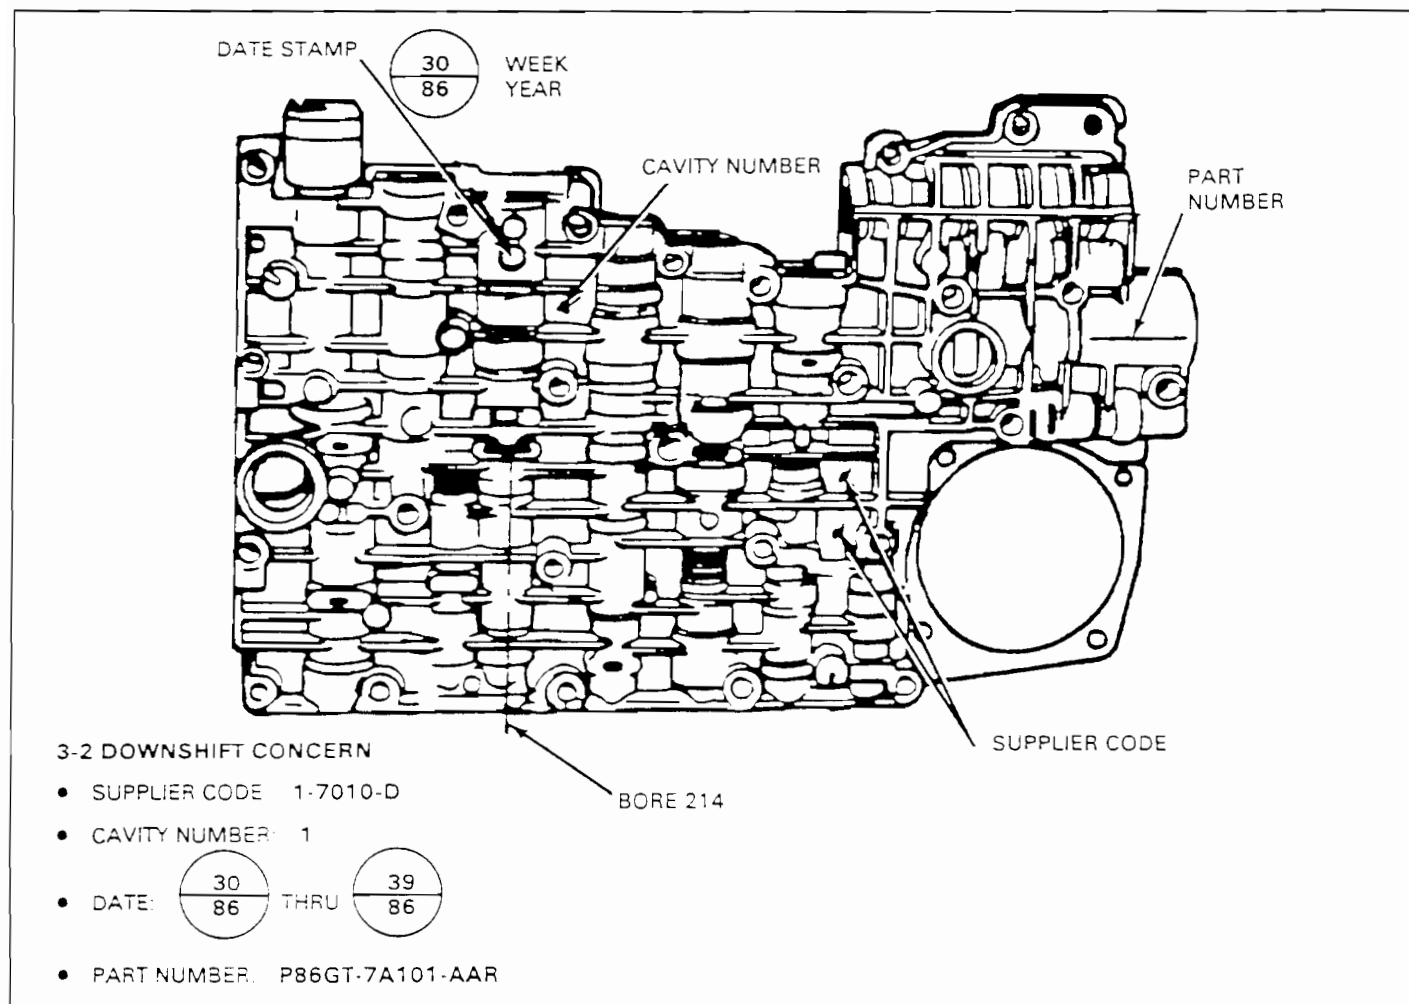

Figure 29
ISSUE: An increase of approximately 1000 engine RPM when downshifting to 2nd gear in Drive or Overdrive during a 3-2 or 4-2 downshift may be caused by a mispositioned channel in the #214 (3-2 kickdown timing valve) bore of the main control casting (see Figure 29). This condition usually occurs within a narrow 3 mph/5 km/h range at a normal speed of 38 mph/61 km/h depending upon axle ratio and tire size.
2. If the transmission build date falls within the July 30-October 1, 1986 time period, remove oil pan to determine casting supplier code, casting date and cavity number (Figure 29).
3. If the main control has the matching identification specified in Figure 29 (Supplier Code 1-7010-D, Cavity No. 1, Build Date 30th Week '86 through 39th Week '86 and Part No. P86GT-7A101-AAR), remove main control using the procedure in Section 17 of the appropriate Shop Manual and repair as follows: